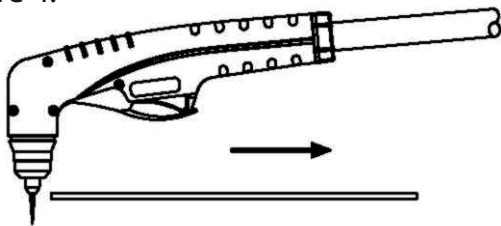
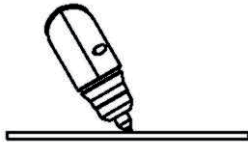

Figure 3
Figure 4
- For edge starts, hold the torch perpendicular to the workpiece with the front of the tip on the edge of the workpiece at the point where the cut is to start. - Figure 3. For piercing, angle the torch slightly to direct sparks away from the torch until the pierce is complete. Figure 4.